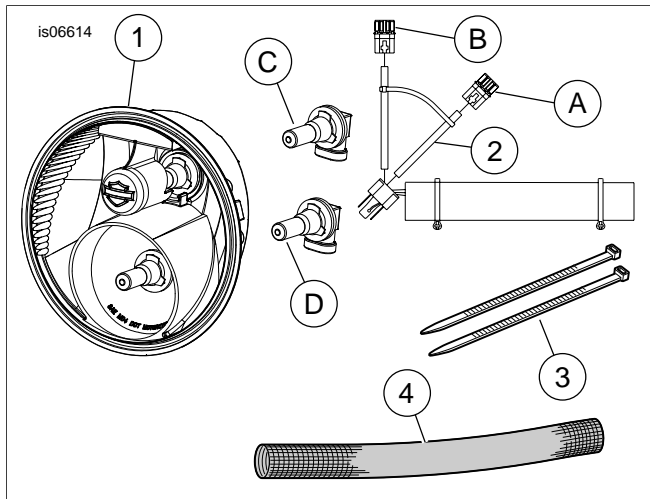

Figure 2. Service Parts: Dual-Bulb Halogen Headlamp
See Figure 2 and Table 1.
3. Remove the mounting ring screws (3) and mounting ring (4) that hold the original equipment single-bulb headlamp assembly (5) in the headlamp bucket (6). Retain the mounting ring and screws for re-installation.
5. See Figure 2. Obtain the **new** wire harness (2) and the **new** dual-bulb headlamp assembly (1) from the kit.
- a. Plug the wire connector (B) with **one black and one yellow lead** into the upper (low beam) bulb (C).
- b. Plug the connector (A) with **one black and one white lead** into the lower (high beam) bulb (D).
- c. Slide the flex conduit (4) over the original connector and wire harness remaining inside the headlamp bucket.
7. To help prevent the new wire harness from rattling against the headlamp, "double-up" by folding the wire harness assembly and bundling together with a wire tie (3) from the kit.